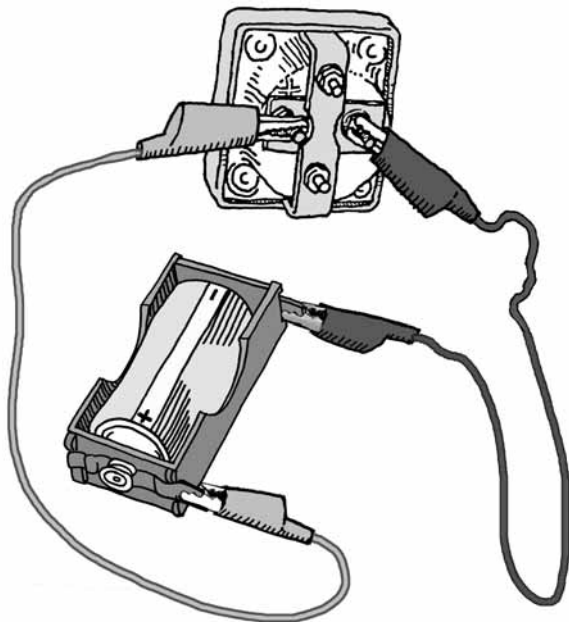

Figure 7.4 A battery connected to a voltmeter
4. Check the batteries with the voltmeter, as shown in Figure 7.4, to see that they are fully charged. The voltage of a NiMH battery should be 1.2 V.